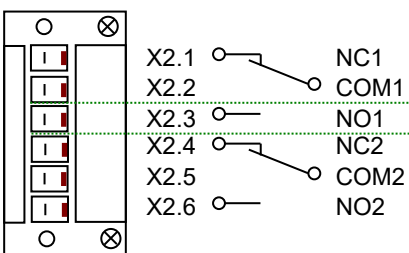

Figure III.14: Connection block X2
**X2:** Alarm relay output (see Figure III.14 on page 8)